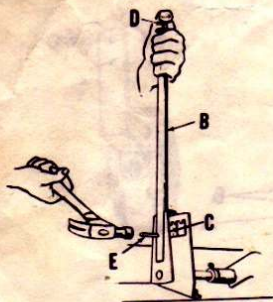

FIG. 3
2. Move lift lever (B) up and back so that center of lever is centered with opening of lever quadrant (C). Depress button (D) on top of lever and drive roll pin (E) through opening of lever quadrant and into other side of lever. Roll pin will then engage notches in lever quadrant, holding the lever in one of the 7 notches in quadrant. Refer to Fig. 3.
4. Remove spring retainer (F) and flat washer (G) from frame hanger shaft and remove shaft (H). Refer to Fig. 3. Slide mower out from under L.H. side of tractor. Lever weldment and link can be left on tractor.